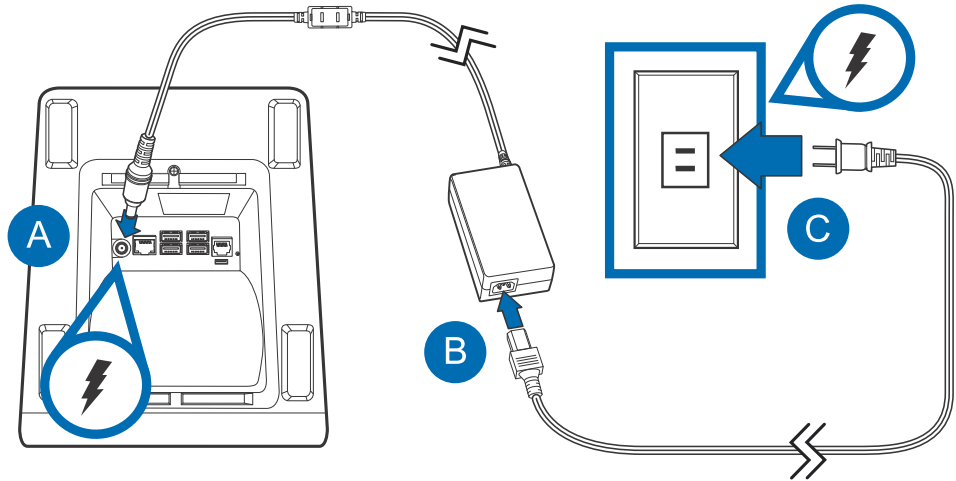

Figure 15 Power Connection
- 2 Insert the round barrel connector (see A in Figure 15) into the power port, then tuck the cable under the Printer Stand leg nearest the power port.
- 3 Connect the power adapter to the power brick (see B in Figure 15).